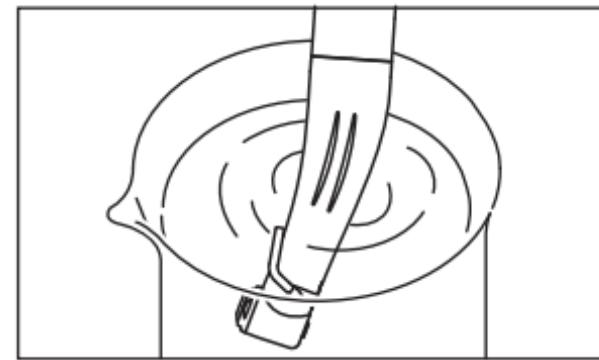

Fig. 6
- 2) Half fill a cup with clean water. Immerse 20mm of the handpiece head in the water then operate the handpiece for about 15seconds. (Fig. 6)